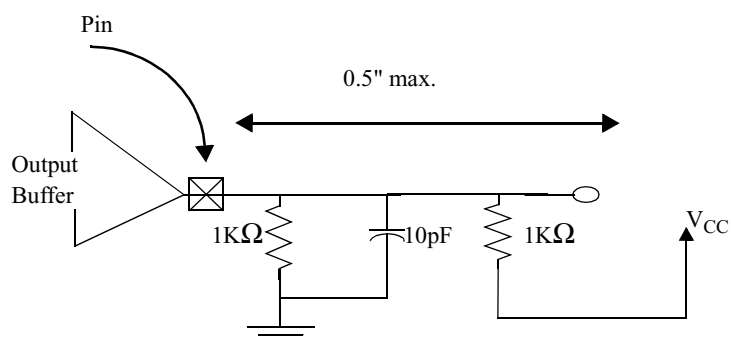

Figure 7-10 Testing Setup for Slew Rate and Minimum Timing
3. Rise slew rate does not apply to open-drain outputs. This parameter is interpreted as the cumulative edge rate across the specified range. According to the test circuit Figure 7-10.
1. See the timing measurement conditions in Figure 7-10.
2. Minimum times are evaluated with same load used for slew rate measurement (as shown in Figure 7-10); maximum times are evaluated with the load circuits shown in Figure 7-13, for high-going and low-going edges respectively.